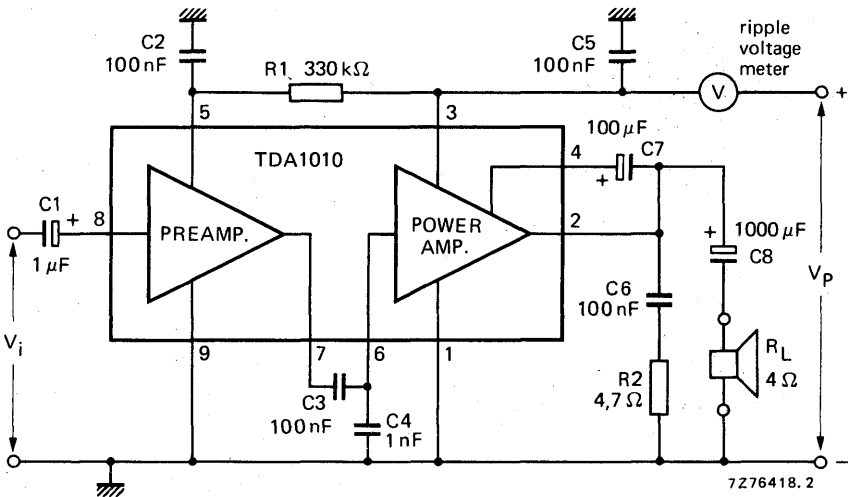

Fig. 3 Test circuit.
Fig. 4 Output power of the circuit of Fig. 3 as a function of the supply voltage with the load impedance as a parameter; typical values. Solid lines indicate the power across the load, dashed lines that available at pin 2 of the TDA1010.  $R_L = 2 \Omega$  (1) has been measured with an additional  $220 \Omega$  bootstrap resistor between pins 3 and 4. Measurements were made at  $f = 1 \text{ kHz}$ ,  $d_{\text{tot}} = 10\%$ ,  $T_{\text{amb}} = 25 \text{ }^\circ\text{C}$ .
Total harmonic distortion in the circuit of Fig. 3 as a function of the output power with the load impedance as a parameter; typical values. Solid lines indicate the power across the load, dashed lines that available at pin 2 of the TDA1010.  $R_L = 2 \Omega$  (1) has been measured with an additional  $220 \Omega$  bootstrap resistor between pins 3 and 4. Measurements were made at  $f = 1 \text{ kHz}$ ,  $V_p = 14,4 \text{ V}$ .
Fig. 7 Total power dissipation (solid lines) and the efficiency (dashed lines) of the circuit of Fig. 3 as a function of the output power with the load impedance as a parameter (for  $R_L = 2\Omega$  an external bootstrap resistor of  $220\Omega$  has been used); typical values.  $V_p = 14,4\text{ V}$ ;  $f = 1\text{ kHz}$ .